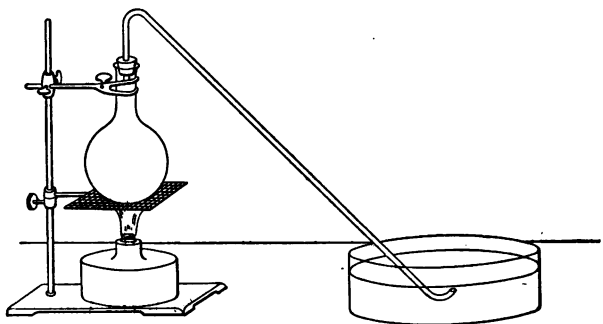

FIG. 18.
M. Quite right. This comes from gravity, as they always try to get as low down as possible. Both causes work simultaneously on the liquid, but the gravity is generally far the stronger, and the shape of the water is most dependent on that. Now we must make a hole in the cork. For that I bore a hole with a steel point, an awl, and then I file it with a somewhat large round file till I can with a little force stick the glass tube through. Now everything is put together, and I fasten the apparatus, so that I can slip a piece of wire gauze below the flask and put the lamp under it (Fig. 18).